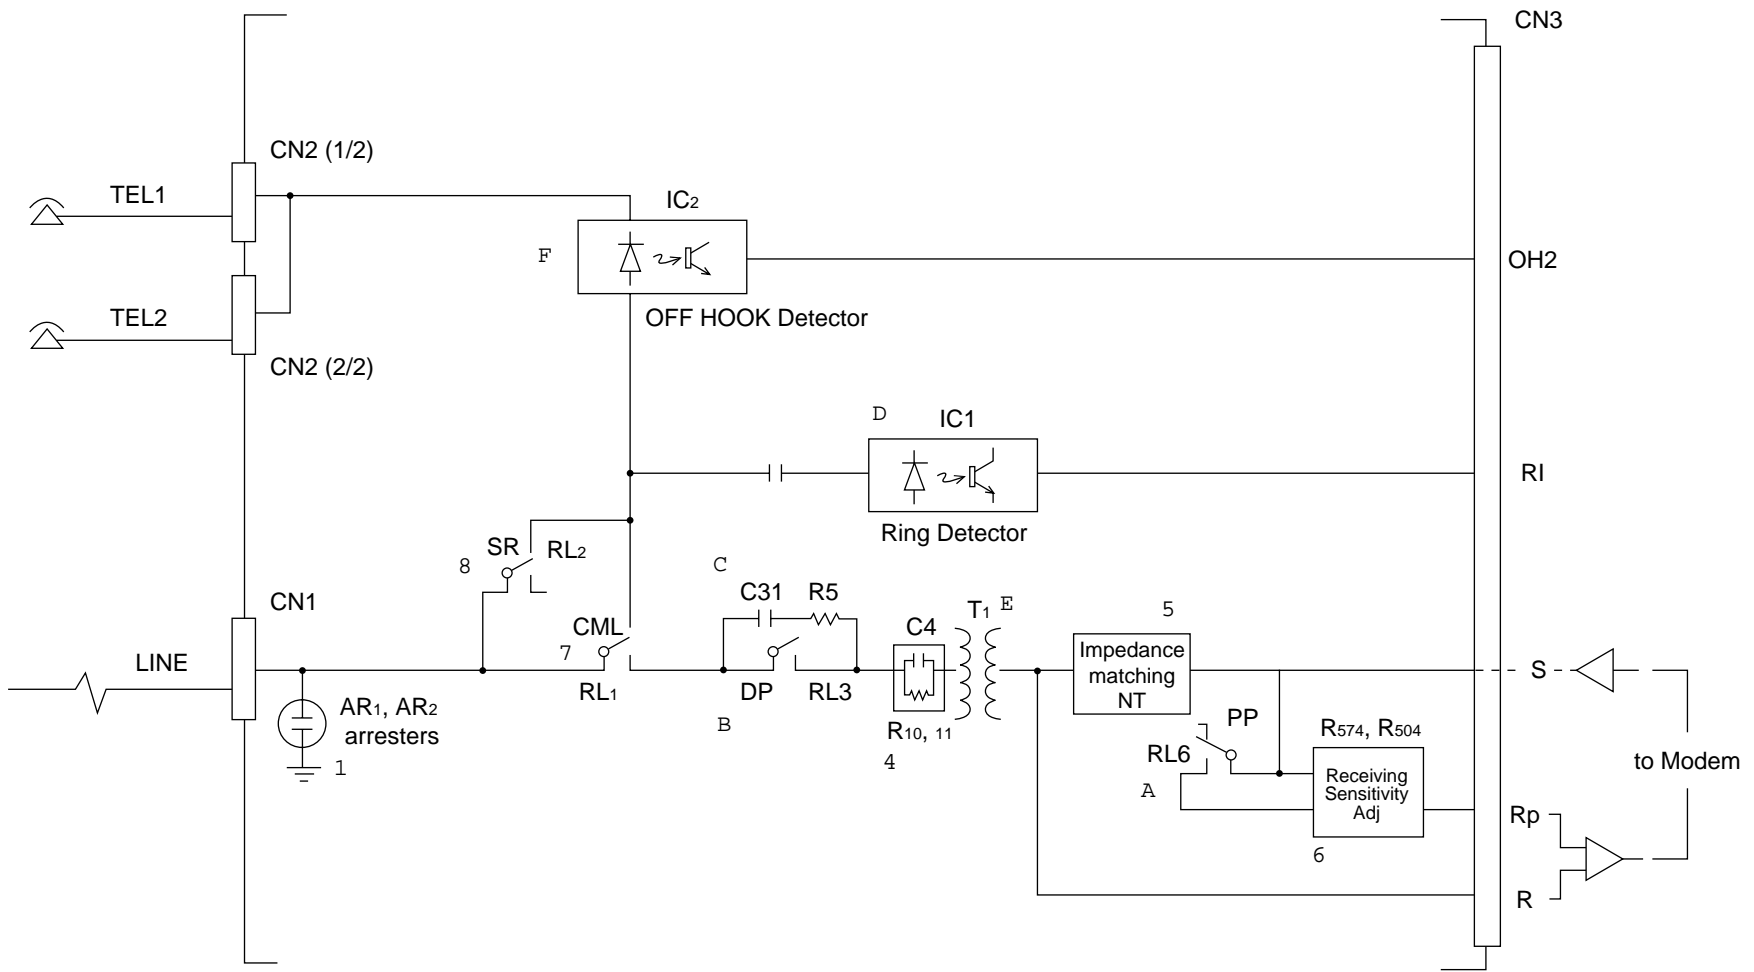

Figure A3.4.1 Block Diagram of UNC
- Figure A3.4.1 shows a block diagram of UNC circuit.